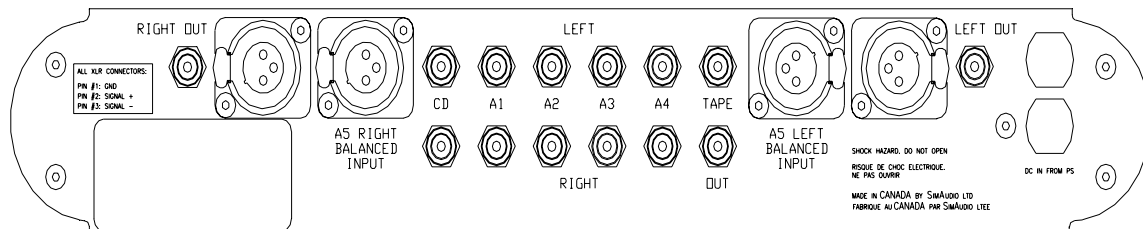

Figure 2: Rear panel of Moon P-5 Dual-Mono Preamplifier
The rear panel will look similar to Figure 2 (above). There are five pairs (5) of single-ended (unbalanced) inputs on RCA connectors labeled CD, A1, A2, A3 and A4. The left channel inputs are located on top and the corresponding right channel input are located directly below. A sixth input, labeled A5, is for balanced operation and on a pair of XLR connectors. As a result of both space limitations and a circuit board layout intended to maintain the shortest possible signal path length, these balanced inputs are located on either side of the single-ended RCA input connectors. The A4 input, as previously mentioned, bypasses the gain stage and is intended to be used with a component, such as a home theater processor, that has its own volume/gain control.